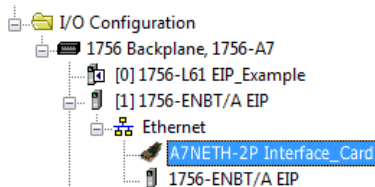

Figure 37: AOP Interface Card I/O Configuration
- 14) You should now see the interface card in the 1756-ENBT/A branch under the I/O Configuration in the controller organizer view. The full I/O Configuration tree should appear similar to Figure 37.